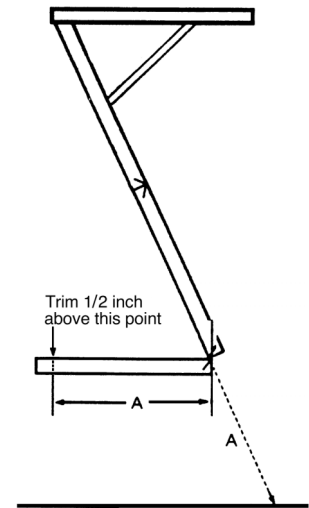

Fig. 1
STEP 1: Fully extend the folding sections of the stairway and fold the bottom section underneath the middle section to form a straight line (Fig. 1, Section A)
STEP 2: Measure distance A and mark the distance on the A side of the bottom stringer (Fig. 1). Mark this reference point on both sides of the stringer. Draw a straight line **3/4 inch above** these reference points. It is possible for the landing area to be uneven, so repeat this procedure on the other stringer.